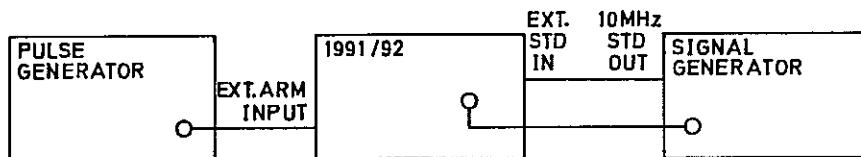

Fig 7.22 Connections for External Arming PVP
- (1) Select 50 Ω on channel A and FREQ A. Press the RESOLUTION key three times until 00000 is displayed.
- (2) Connect the test equipment as shown in Fig 7.22.
- (3) Set the signal generator output to 10 MHz at a level of 200 mV r.m.s.
- (4) Prepare the pulse generator to give a single, 300 μs, positive-going pulse with a low level of +0.4 V and a high level of +2.4 V (TTL limit levels).
- (5) Press **1**    **6**    **SHIFT**    **STORE**    **SF**    **SHIFT**    **SF**
- (6) Verify that the instrument is not counting.
- (7) Trigger the pulse generator to obtain a single pulse output.
- (8) Verify that the display indicates 10.0000 6 Hz ± 1 count and that the instrument is not continuously gating.
- (9) Press **I**    **0**    **SHIFT**    **STORE**    **SF**    **SHIFT**    **SF**
(10) Disconnect the test equipment.